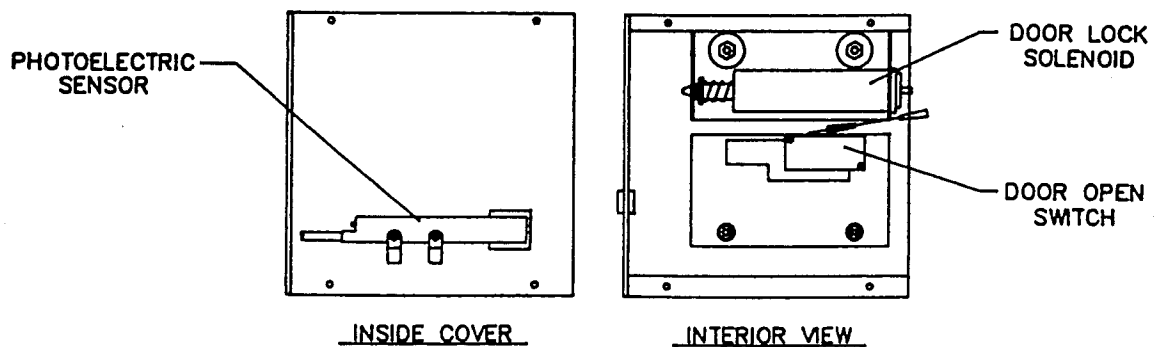

Figure III-4
3. The station solenoid-driven door lock is an electro-mechanical device which when actuated engages the door latch mechanism and locks the station door. This prevents injury to operators who otherwise could inadvertently open the station door as a carrier is arriving. Figure III-4 below is a diagram of the Door Lock Box.